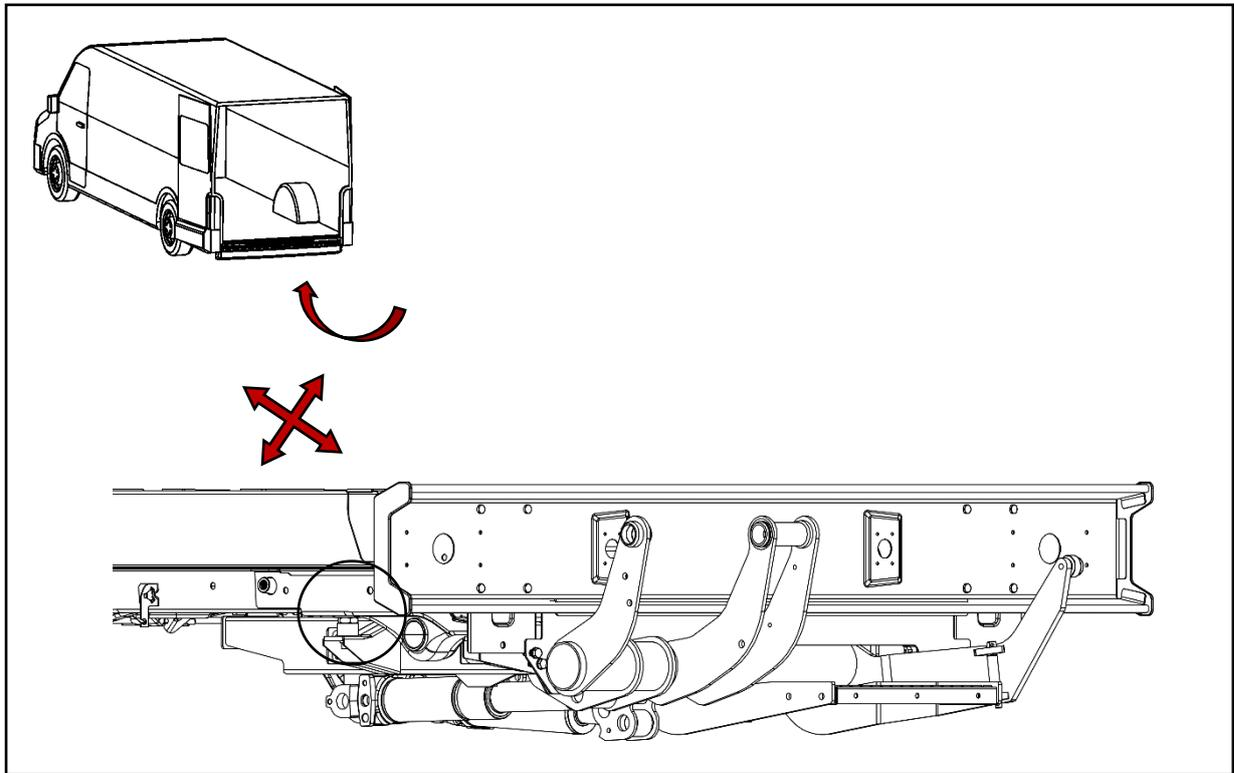

Figure 24
- Line up the installation adapters on the lifting gear with the manufacturer's holes in the vehicle chassis (see Fig. 24).